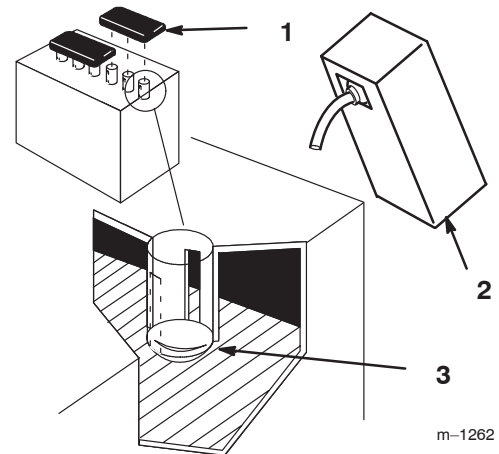

Figure 8
2. Remove filler caps from the battery. Slowly pour electrolyte into each cell until the electrolyte level is up to the lower part of the tube (Fig. 8).
5. Slowly pour electrolyte into each cell until the level is once again up to the upper line on the battery case (Fig. 8) and install covers.